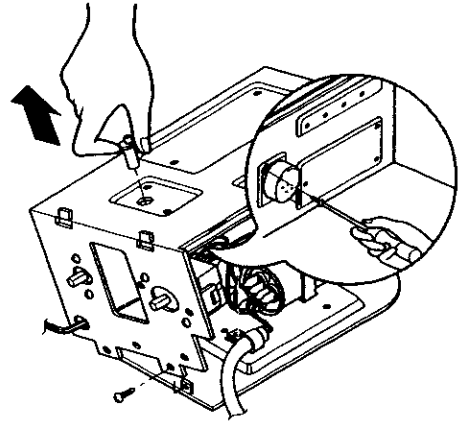

Figure 71
5. Remove the 2 screws which fasten the synchronous motor. (See Figure 71)